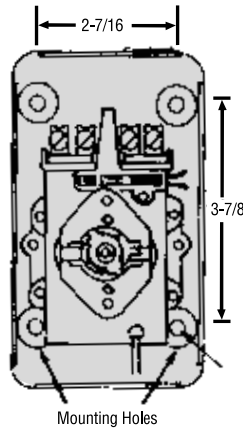

Figure 2
2. Use sheet metal or wood screws through the four  $\frac{7}{32}$ " diameter mounting holes in baseplate to mount control (see Figure 2).